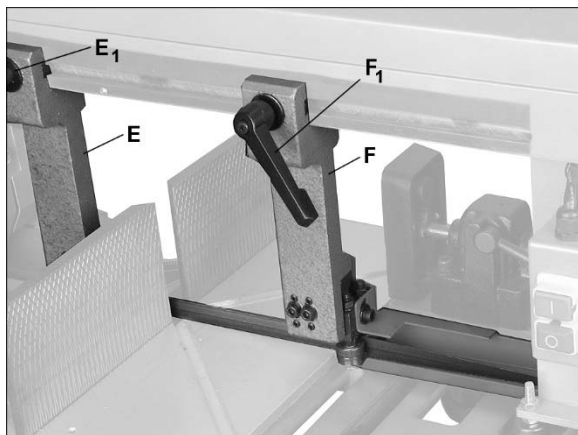

Figure 7-4: blade guide arm adjustment
2. The fixed blade guide arm (E, Figure 7-4) should be positioned as close to work area as possible, without interfering when bow is swiveled to an angle. Loosen screw (E₁) and slide arm as needed. Tighten screw before operating. (Once the fixed guide arm is properly positioned, it can generally remain in that position for all operations.)
3. The movable blade guide arm (F) should be as close as possible without interference to material being cut. Loosen handle (F₁) and slide arm as needed. Retighten handle before operating.